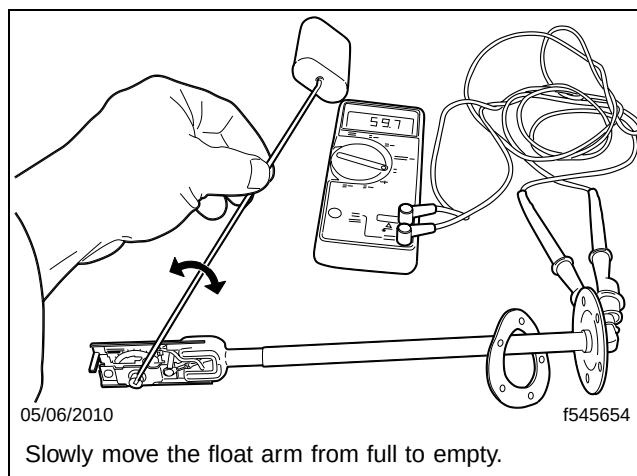

Fig. 9, Testing the Two-Wire Fuel Level Sending Unit
- 5.3 Connect an ohm meter to the pins at the fuel level sender connector. Slowly change the level of the float arm from full to empty. See **Fig. 9**.